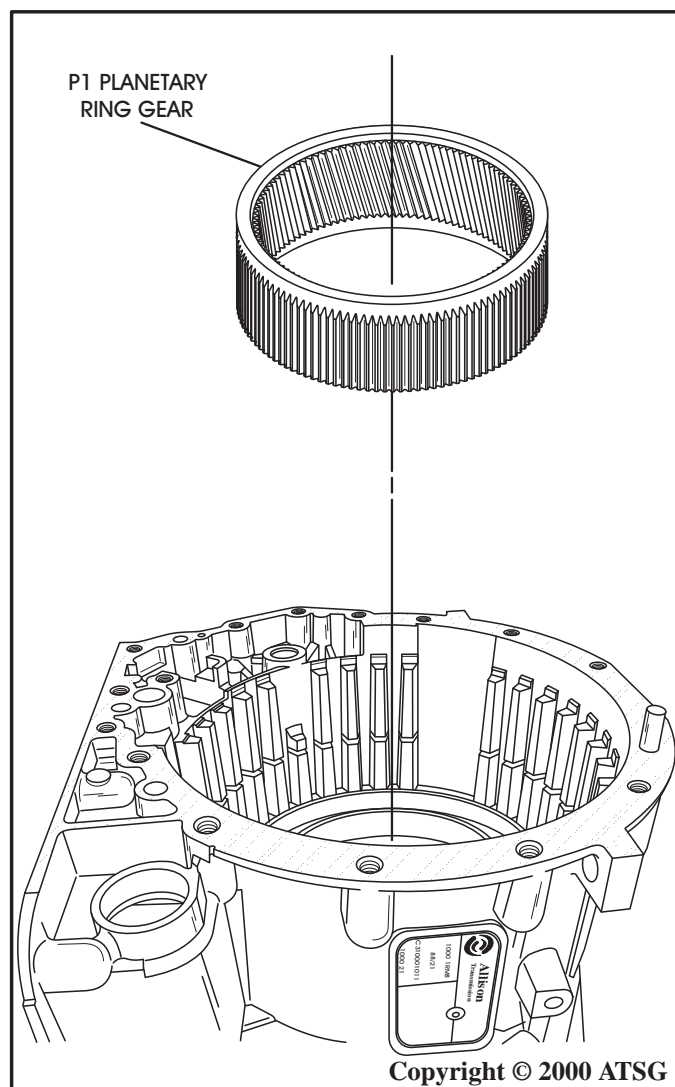

Figure 69
54. Remove the P1 planetary ring gear from the C3 clutches in the case (See Figure 69).